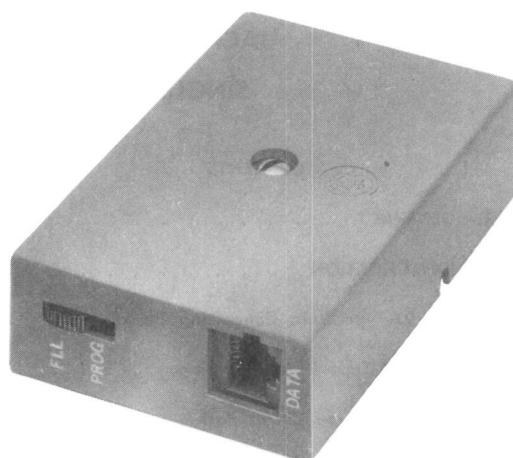
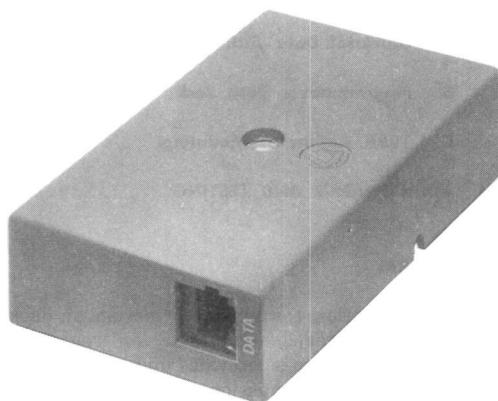

Fig. 1—97A-Type Connecting Block
Fig. 2—97B-Type Connecting Block
2.01 The 97A- and 97B-type data connecting blocks provide a means for connecting registered data equipment to the switched telecommunications network. The 97A type (Fig. 1) is for use with data equipment registered as either fixed loss loop type or programmed and is also referred to as the universal data jack. The 97B-type connecting block (Fig. 2) is for use with data equipment registered as programmed, and is also referred to as the programmed data jack.